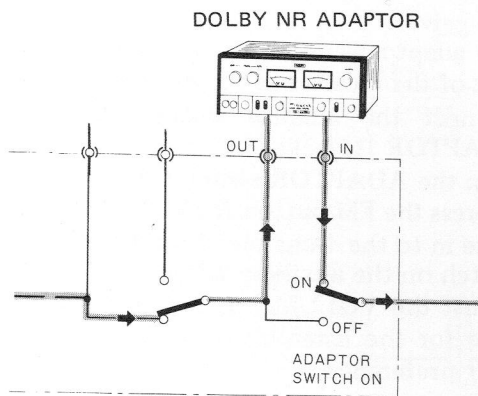

Fig. 25
2. Connect the Dolby adaptor as shown in Fig. 25.